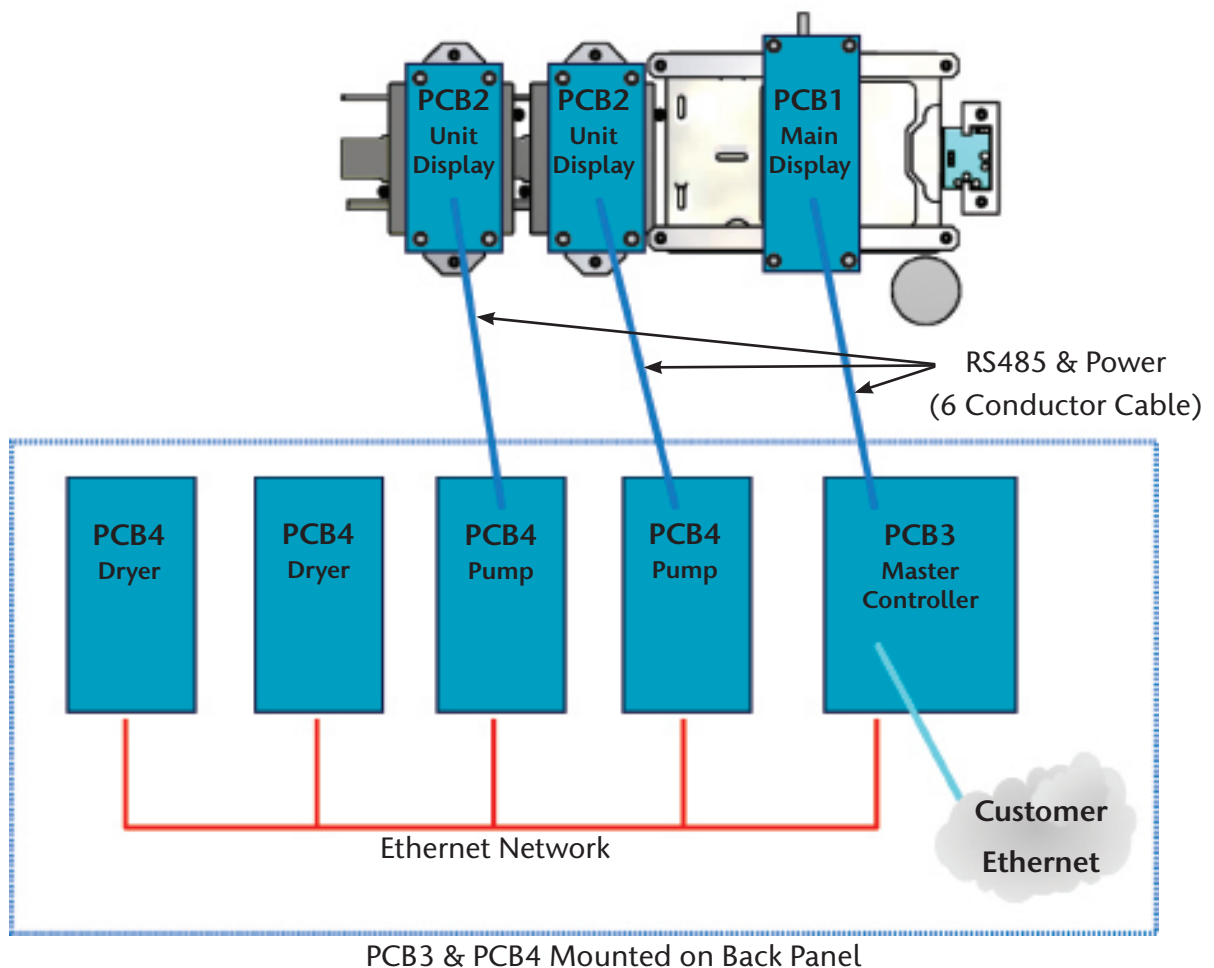

Figure C.2 Duplex Medical Air Configuration - Printed Circuit Boards
The source control system is comprised of four (4) different printed circuit boards (PCBs) with interconnecting wiring (RS485 or Ethernet) for internal communications between the boards. See Figure C.2.